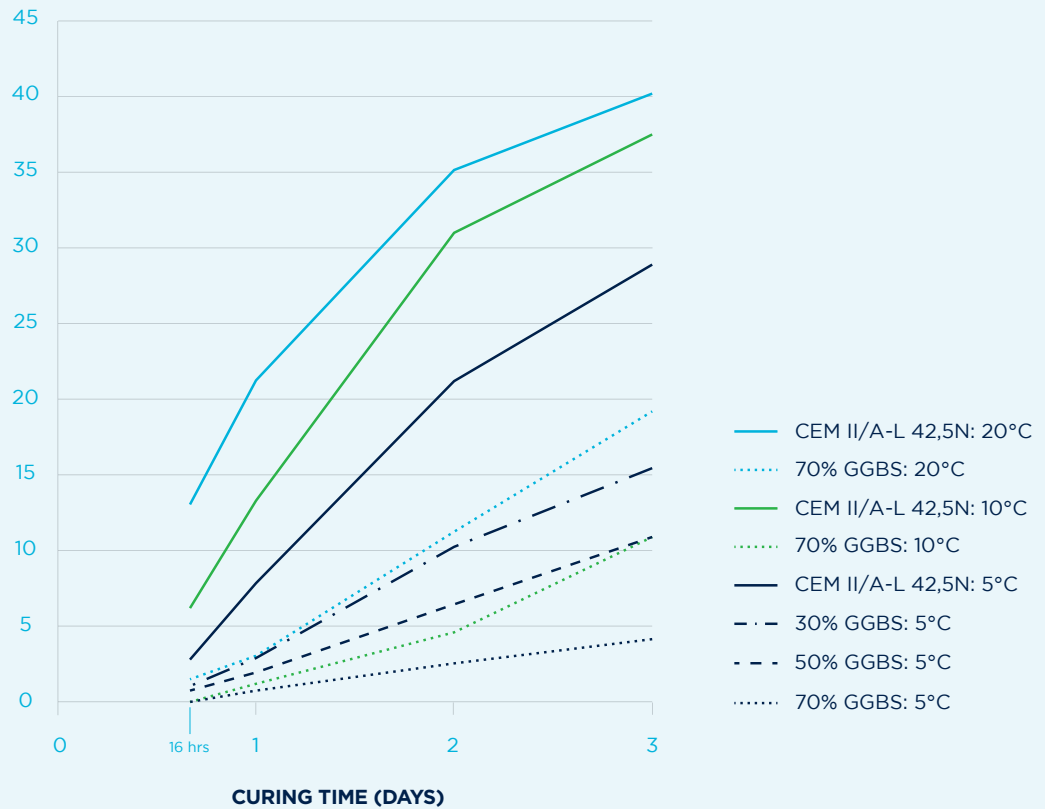

Figure 3: Effect of temperature on the early strength development of a reference concrete mix with varying percentages of GGBS
- At low temperatures, the rate at which concrete hardens is considerably reduced. There is a danger of striking formwork and supporting members before the concrete has acquired sufficient strength to support its own weight and the applied loads. Considerably longer striking times are required for concretes containing high GGBS contents. The effect of curing temperatures and GGBS on the early strength of concrete is shown in **Figure 3** (overleaf).